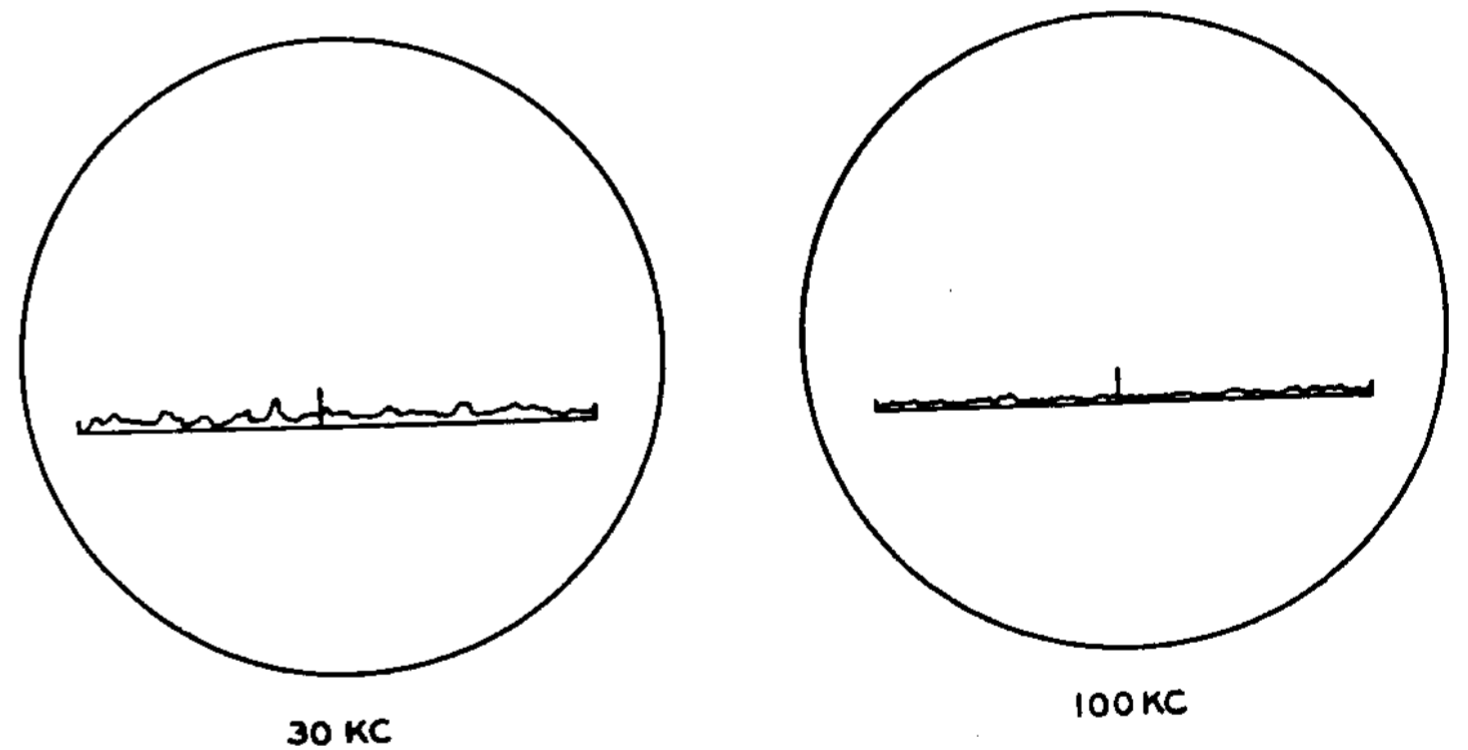

Figure 14
**Figure 14 - Background Noise:** This type of noise has the appearance of grass and is usually much lower in amplitude than the above types of noise. It gives a hissing sound in a speaker.
ALL VOLTAGES MEASURED WITH CONTROLS SET AS SPECIFIED IN FIGURE 14.